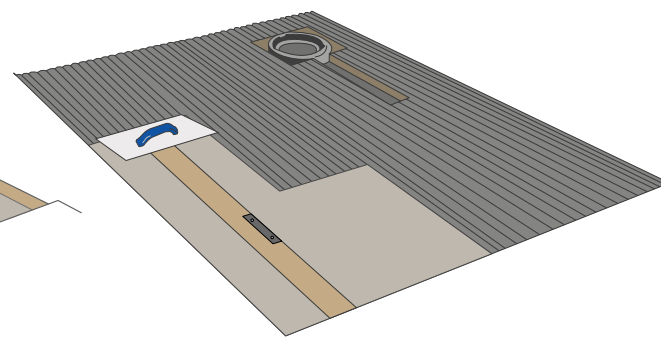

Fig. 12
3. Spread the adhesive evenly over the area where the shower tray is to be installed, being careful to clean away any adhesive on the rim of the drain (Fig.12). We recommend a rapid-setting, flexible, cement-based, category C2 tile adhesive, follow the manufacturer's instructions for the mix ratios.